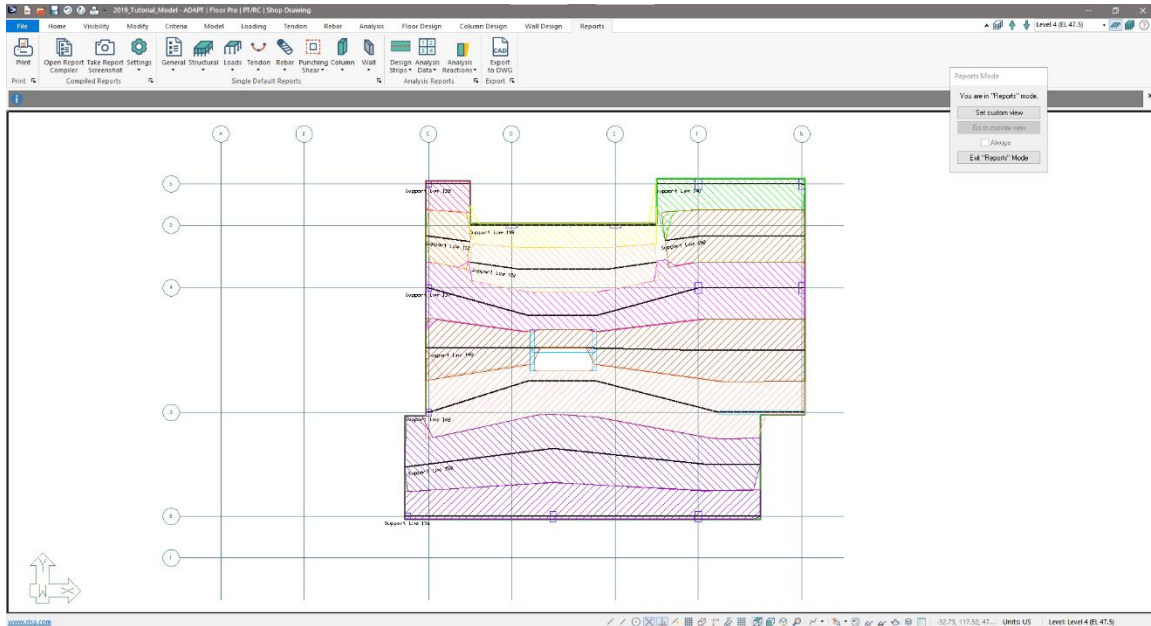

Figure 10-17
- Go to *Floor Design* → *Strip Results/Visibility* click on the *Display/Hide Support Lines in the X-direction* icon. The users screen should look the same as shown in **FIGURE 10-17**. The red highlighted support lines are the support lines we will modify.
- Go to *Reports* → *Analysis Reports* → *Design Strips* → *Design Strips X-Direction*. This will bring up a report view of the design strips for the user to review as shown in **FIGURE 10-17**.